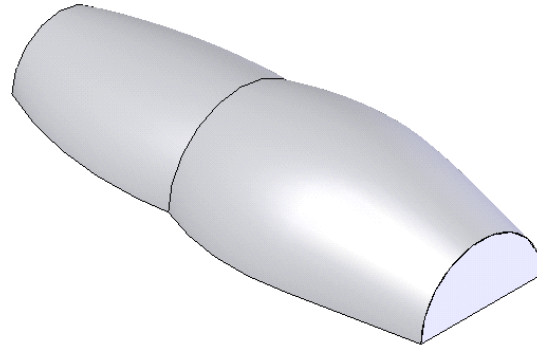

Figure 15-122 Resultant planar surface
8. Invoke the **Planar Surface PropertyManager** and choose the **OK** button from this **PropertyManager** to create the planar surface as shown in Figure 15-122.